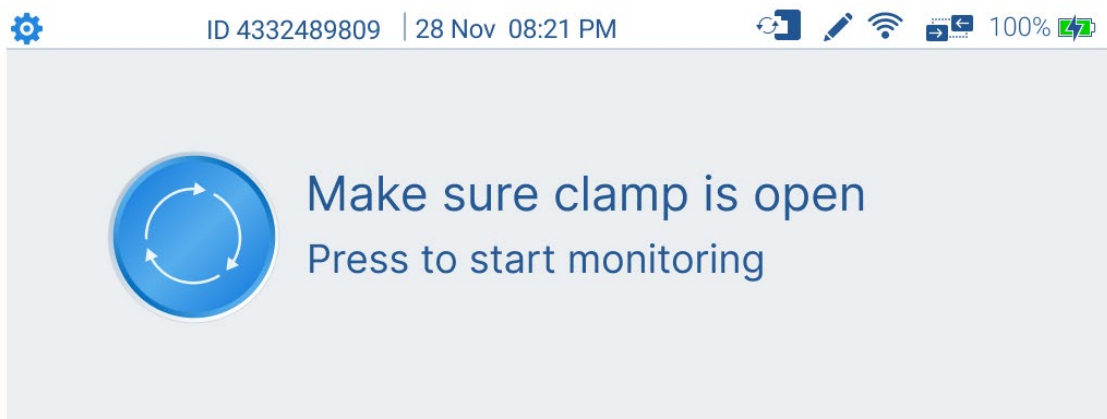

Figure 13 – Measurement Initialization Screen
Once a patient is defined, the Measurement Initialization Screen will be displayed (See Figure 13). Press the blue button on the screen to start monitoring.
3. If you wish to transfer a patient between two different consoles, eject the cassette by pressing the “Eject” button (see Figure 2) and insert the cassette into the new console. The console will identify the cassette and prompt the Start Monitoring screen (see Figure 13). Once the cassette is inserted, patient data such as identifier number, weight, alert preferences, and the last 12 hours of measurement will be transferred to the new console. Previous patient data saved onto the console will be deleted.